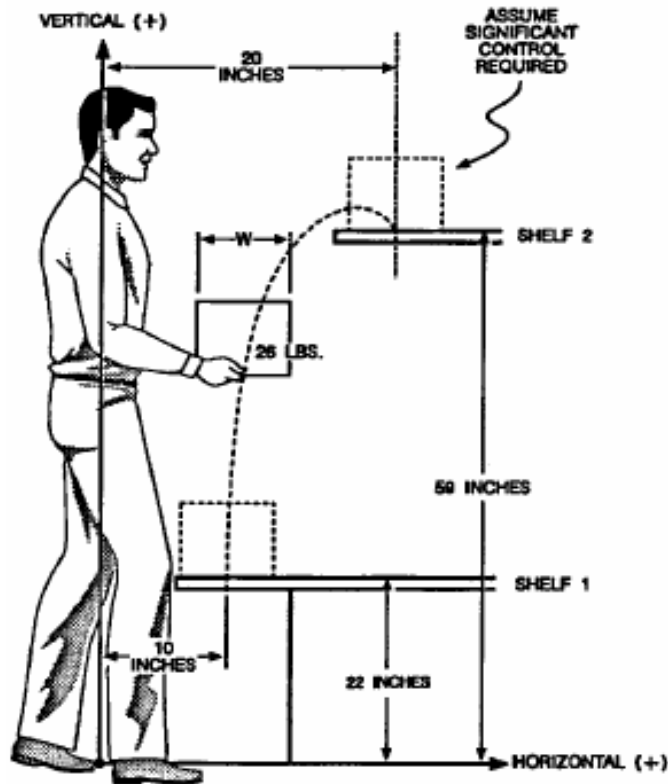

Figure 13 Package Inspection
The job illustrated in Figure 13 consists of a worker inspecting compact containers for damage on a low shelf, and then lifting them with both hands directly in front of the body from shelf 1 to shelf 2 at a rate of 3/min for a duration of 45 minutes. For this analysis, assume that (1) the worker cannot take a step forward when placing the object at the destination, due to the bottom shelf, and (2) significant control of the object is required at the destination. The containers are of optimal design, but without handles (For classification, refer to Table 6).